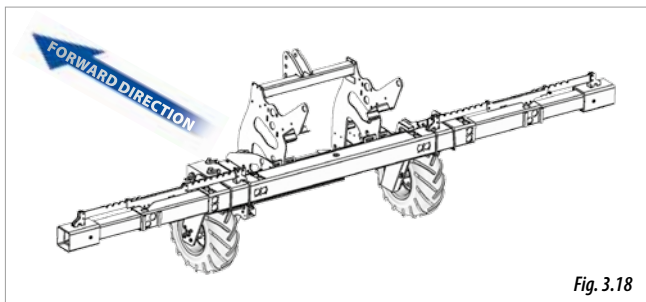

Fig. 3.18
- Double telescopic (Fig. 3.18)